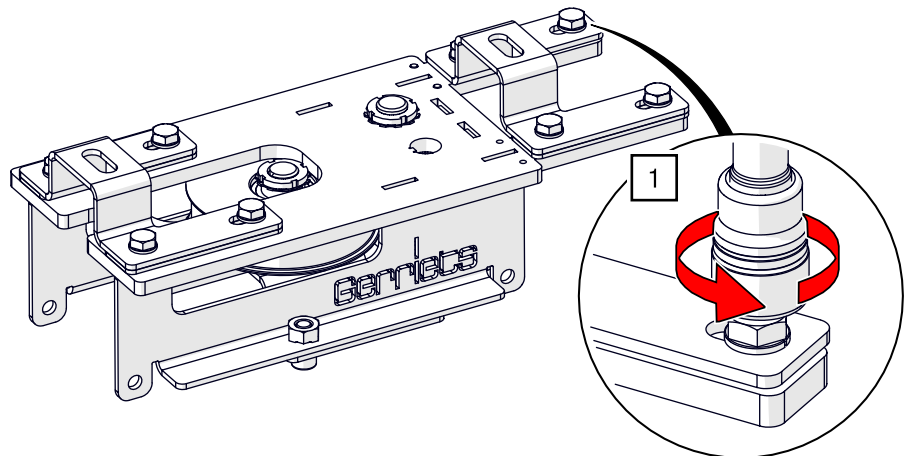

Fig. 69: BELT-TRACK deflection unit – Loosen screws on clamping plate
1. Loosen the screws on the clamping plate on the side of the guide rollers of the deflection unit with belt tensioner with an open-ended spanner AF 17 (see Fig. 69).